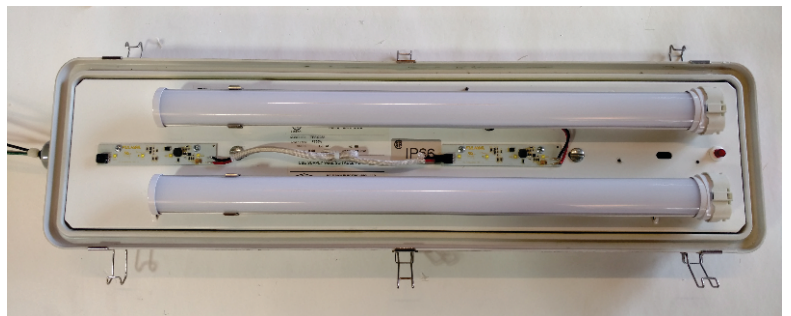

Figure 10
14. Replace the original lamps and luminaire lens. See figure and figure 10.